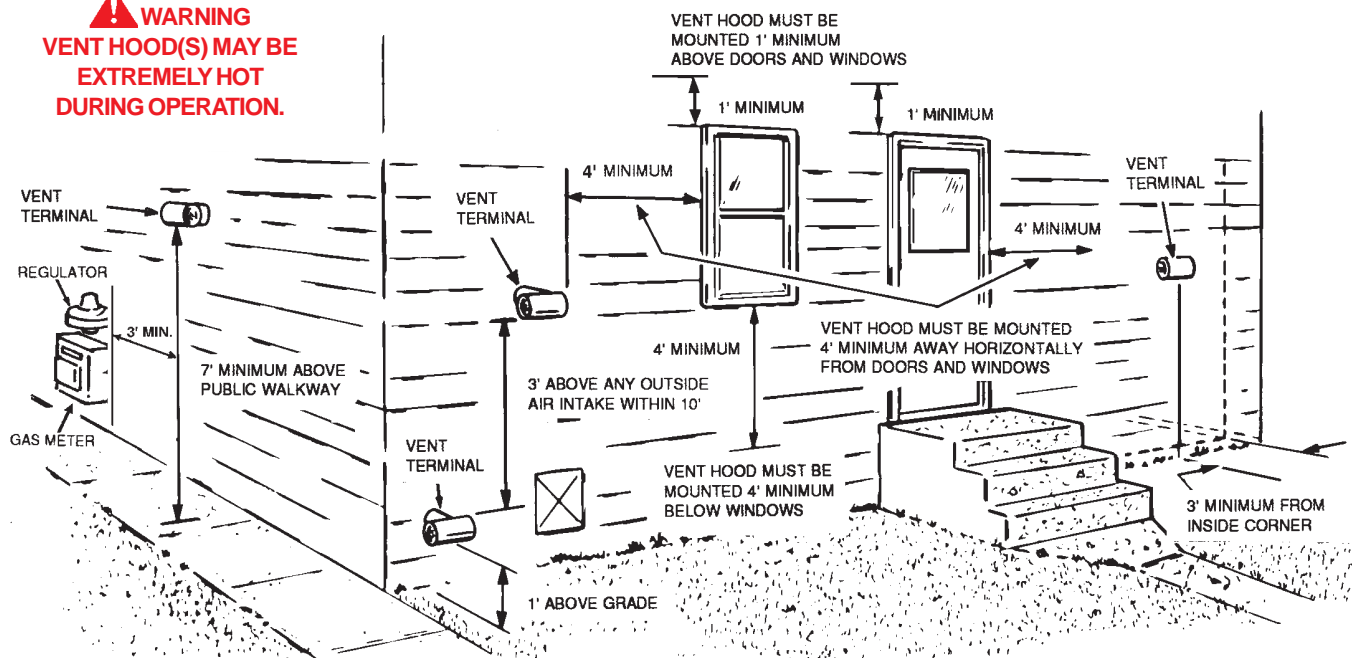
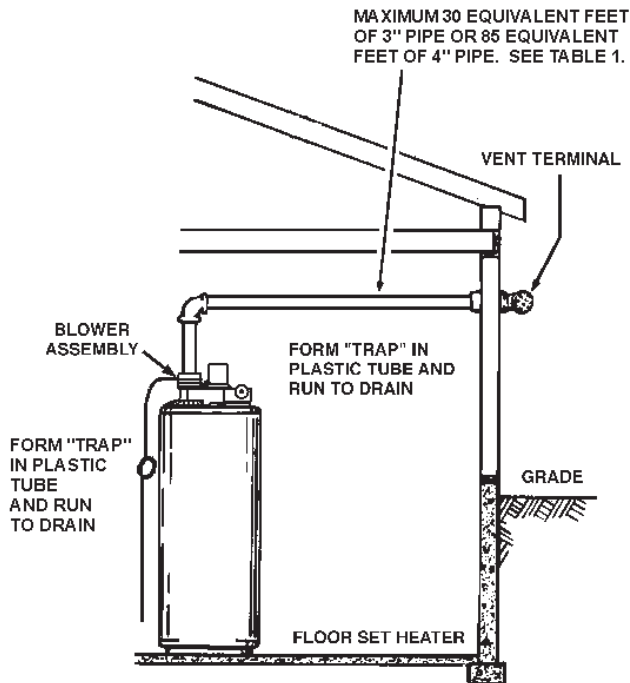
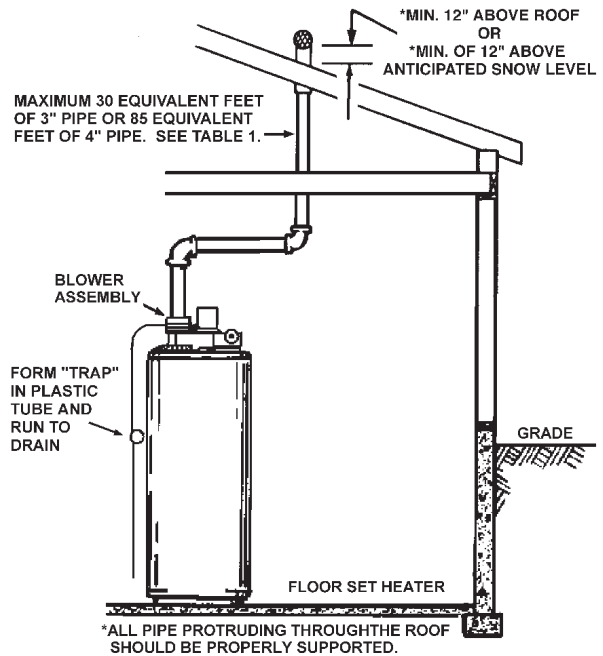

FIGURE 3
FIGURE 8
FIGURE 9
The first step is to determine where the vent pipe will terminate. See Figures 3, 8 and 9. The vent may terminate through the roof as shown in Figure 9 or through a sidewall as shown in Figure 8.
For your convenience instructions on proper installation through a sidewall are provide in Figure 3 and the numbered points below:
- The temperature of the flue gases leaving the blower is about 160°F after mixing the dilution air in the inlet adapter of the blower. Even with high concentrate of room air taken into the vent system for dilution air, there will be some installations where condensate will be formed in the horizontal runs of the vent system. This condensate will run into the condensate boot attached to the blower and out the fitting. The water heater is shipped with condensate hose that attaches to the fitting on the condensate boot. No other Tee or fitting is required. See Figures 8 and 9.
This unit is approved for venting through the roof with only the vent terminal that is included with the unit, see Figure 9. A proper flashing or "BOOT" should be used to seal the pipe where it exits the roof. The total vent system should not exceed the thirty (30) equivalent feet of 3 inch pipe or eighty five (85) equivalent feet of 4 inch pipe as listed in Table 1.